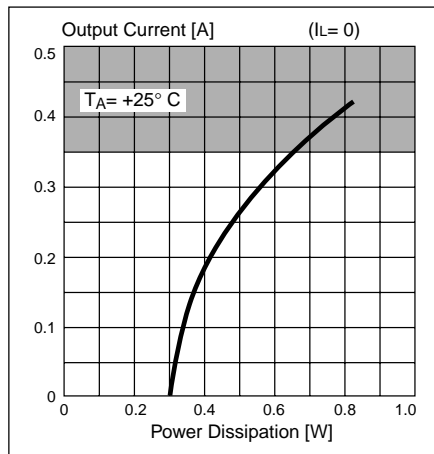

Figure 23. Typical P_{DP} vs. I_P . Power dissipation without second-level supply (includes 2 active outputs = FULL STEP)
- Figures 23 and 24 give the relationship between motor currents and their dissipations. The sum of these power dissipations must never exceed the previously-established value, or life expectancy will be drastically shortened.
- When no Bi-level or voltage doubling is utilized, the maximum motor current can be found directly in figure 23 .